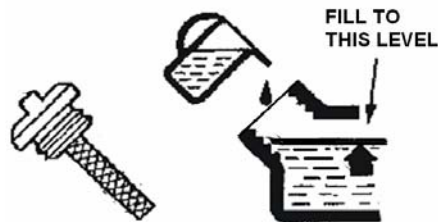

Figure 16- Adding oil
3. Using a funnel, add the appropriate type and amount of oil into the crankcase. The crankcase is full when the oil level has reached the second thread from the lip of the opening (see figure 16).